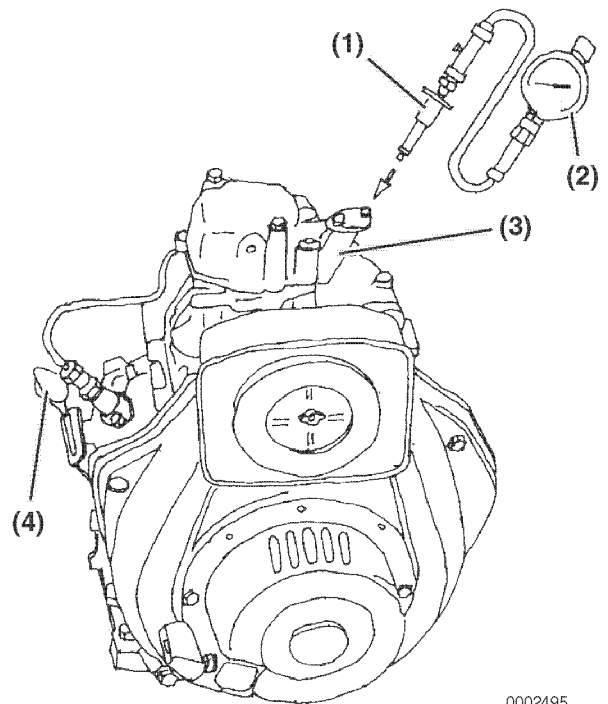

Figure 11-1
1. With the engine COLD (room temperature), remove the fuel injector (**Figure 11-1, (3)**) from the cylinder head. See *Removal of Fuel Injector on page 7-22*.
2. Crank the engine with the speed control (**Figure 11-1, (4)**) in the stop position (no injection state) 5-6 compression strokes before installing the compression gauge adapter.
3. Install a gasket at the tip end of the compression gauge adapter (**Figure 11-1, (1)**). Install the compression gauge (**Figure 11-1, (2)**) and the compression gauge adapter at the cylinder.